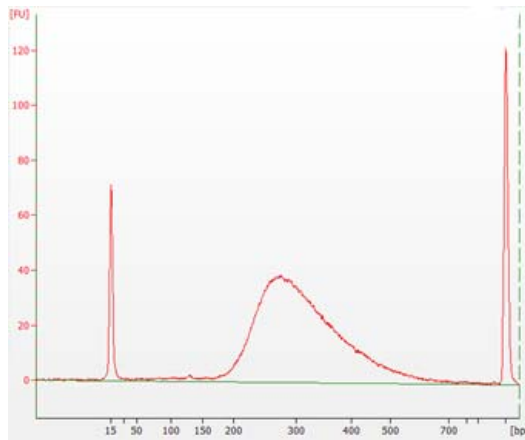

Figure 2 Analysis of amplified prepped library cDNA using a DNA 1000 assay. The electropherogram shows a single peak in the size range of 200 to 600 bp.
- 7 Verify the results. A sample electropherogram is shown in Figure 2.